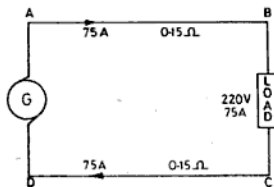

Fig. E.3.6
**EXAMPLE 3.6** A generator supplies 75 A at 220 V through a pair of feeders each having a resistance of 0.15  $\Omega$  (Fig. E.3.6). What is the voltage at the generating station?